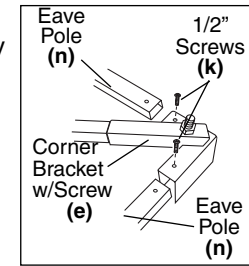

Fig. 10
- Attach one end of eave pole (n) to corner brackets w/screw (e). Secure by using 1/2" screws (k) (no nut) (Fig. 10)